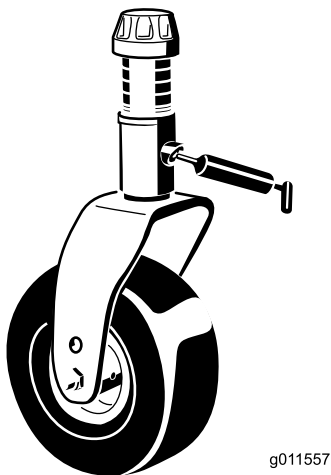

Figure 45
- Castor fork shaft bushing (1) (Figure 45)
- Idler arm pivot bushings (1) (located on the idler arm)